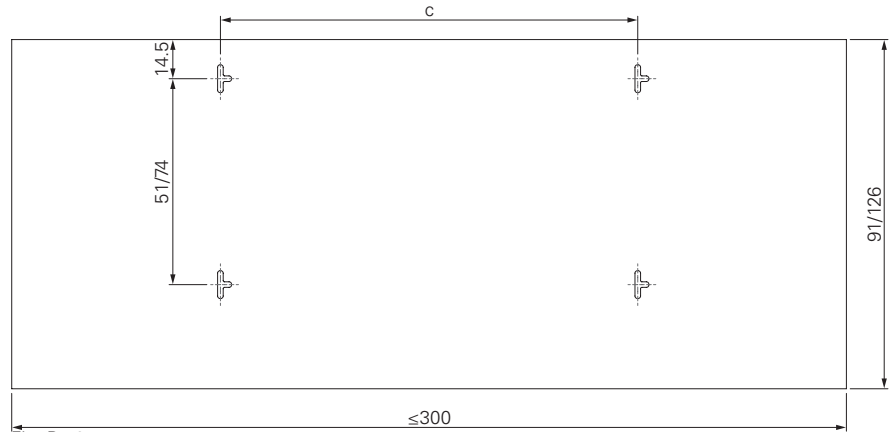
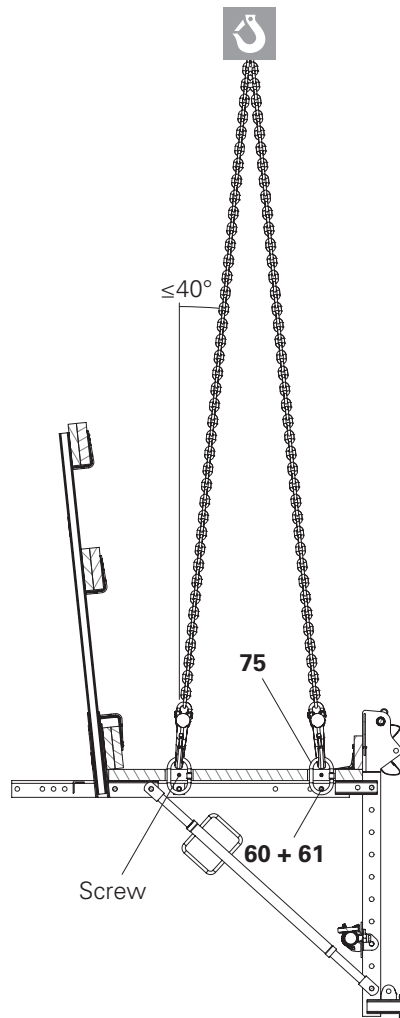
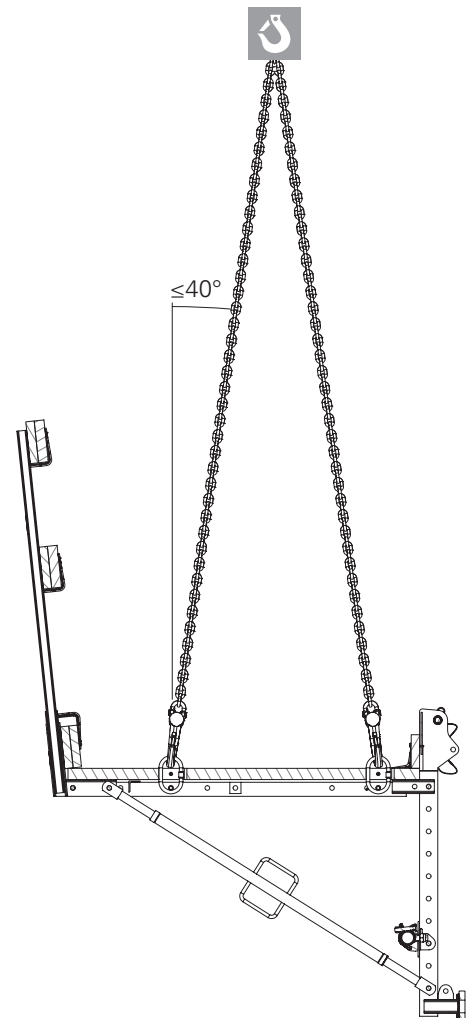

Fig. B4.04
Fig. B4.05
Fig. B4.06
- Cut four 10 x 2 cm slots at the indicated intervals. (Fig. B4.04).
- Guide Suspension Link A13 (75) into the opening, fit with Pin  $\text{\O}16 \times 90$  mm coat (60) and secure with Cotter Pin 4/1 ga (61).
- Fit the screw into the deck to prevent the Suspension Link A13 (75) from falling through to the bolt. (Fig. B4.05 + Fig. B4.06)
- Choose a chain sling length that ensures that the solid angle of the chain inclination against the vertical is not more than  $40^\circ$ . (Fig. B4.05 + Fig. B4.06)